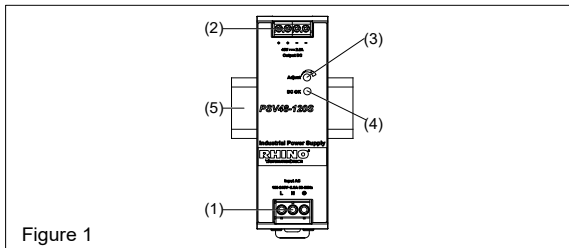
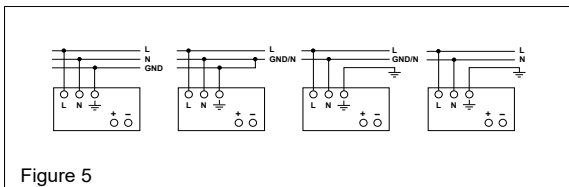

Figure 1
Figure 5
**2. Device description (Fig. 1)**
**5.1. Input connection (Fig. 1, Fig. 5)**
Use L, N and GND connections of input terminal connector (see Fig. 1 (1)) to establish the 100-240 VAC connection. Typical connection methods are shown in Figure 5.
**5.2. Output connection (Fig. 1 (2))**
Use the “+” and “-” screw connections to establish the 48 VDC connection. The output provides 48 VDC. The output voltage can be adjusted from 44 to 56 VDC on the potentiometer. The green LED DC OK displays correct function of the output (Fig. 1 (4)). The device has a short circuit and overload protection and an overvoltage protection limited to 56-67.2 VDC.